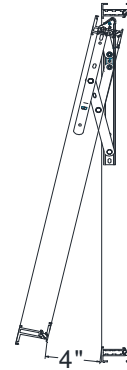

Figure 1:
1. Open the window to desired opening size (Figure 1).